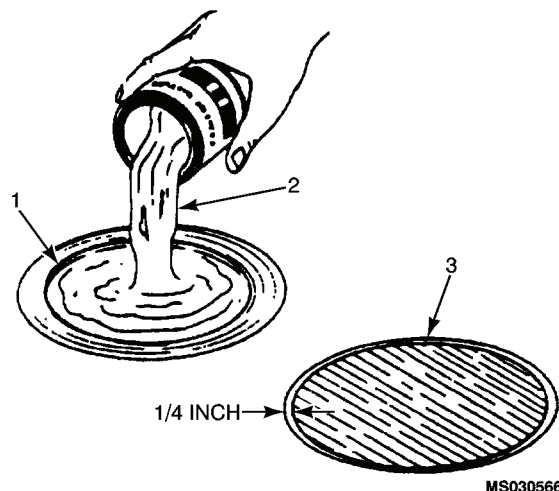

Figure 2-33. Filling Cavity with Adhesive Mixture.
(h) Fill cavity of damaged area (1, figure 2-33) level with inner liner with adhesive mixture (2) to make a smooth continuous surface to apply barrier over. Smooth surface with gloved fingers wet with acetone (item 3, table 2-11). Remove any excess adhesive from buffed area using a clean cloth (item 16, table 2-11) dampened with acetone (item 3, table 2-11). Apply adhesive mixture to no more than 1/4 inch of O.D. of buffed area (3).